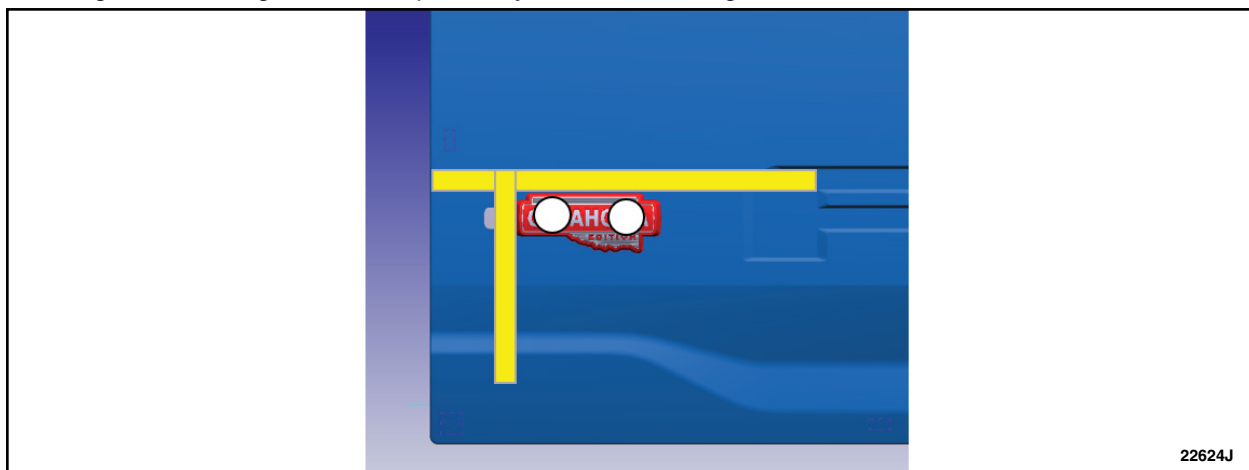

FIGURE 13
49. Remove the tape liner from the back of the badge and install to the door using the locating tape to properly align the badge. See Figure 13.
50. Using medium hand pressure, press for 3 seconds at a minimum of 2 separate locations along the length of the badge until the tape is fully adhered. See Figure 13.